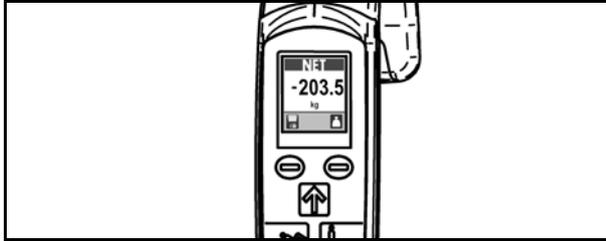

Fig. 66
- Reinstall the sling back on the Maxi Move. Ignore the minus sign preceding the digits on the screen. Allow the weight reading to stabilize. The weight shown is the patient's actual weight (see Fig. 66).